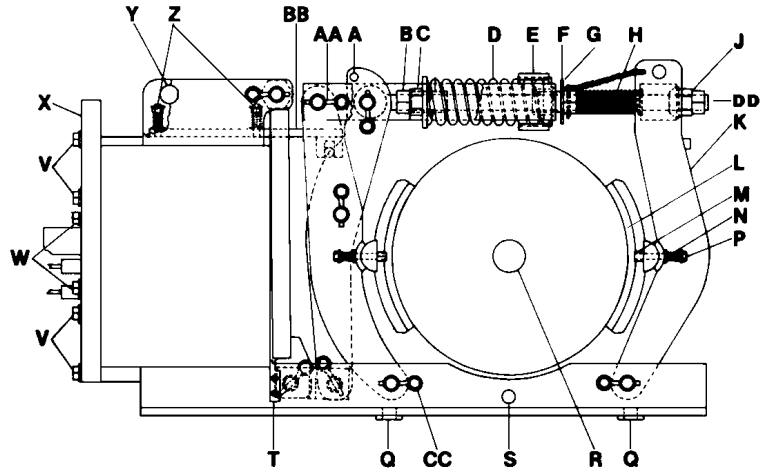

Figure 1: Brake Installation
- See Figure 1 for parts identified by a letter, e.g., “(G)”
This section describes the adjustment of the armature gap, shoe clearance, and brake torque. Letters in parentheses refer to Figure 1 on page 6.
Replace the brake linings using the following procedures (refer to Figure 1):